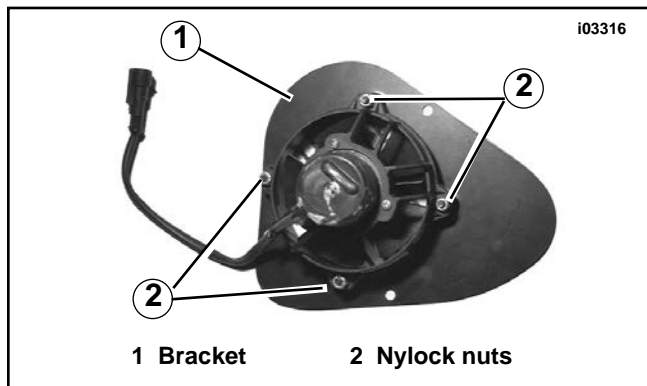

Figure 1. Install Fan Bracket
6. See Figure 1. Install fan (part number Y0050.K) (oriented as shown) to fan bracket (part number R0050.M) using screws (part number AN0808.3CBL) and Nylock nuts (part number DN0800.2CZ). Tighten hardware to 12.4-15.4 in-lbs (1/4-1.7 Nm).